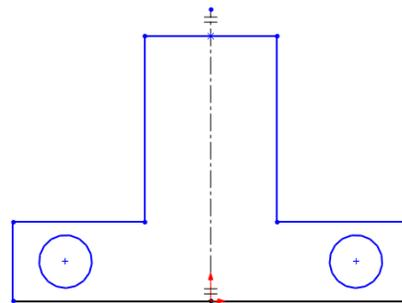

Figure 3-17 Sketch after drawing circles
- Create the left side sketch; the sketch will automatically be mirrored on the right side of the mirror line, refer to Figure 3-17.
11. Move the cursor horizontally toward right to draw a circle and click on the left mouse button when the radius of the circle above the cursor shows 10; a circle of 10 mm radius is drawn. Also, a mirror image is created automatically on the right side of the mirror line, refer to Figure 3-17.